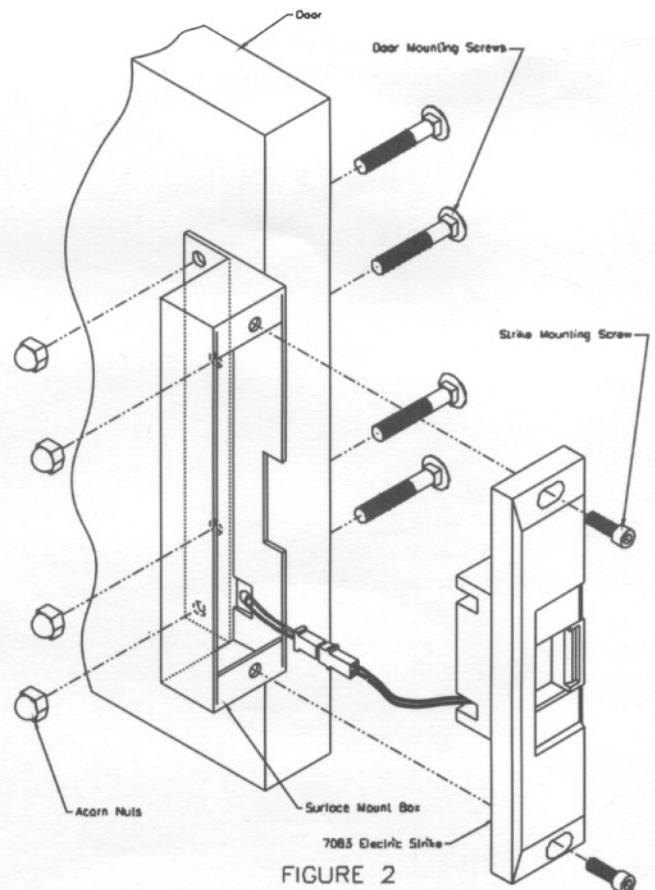

FIGURE 2
2. Install the Surface Mount Box to the door using the door mounting screws and acorn nuts as shown in figure 2.
3. Connect the power wires to the electric strike as shown in figure 2.
4. Mount the electric strike to the Surface Mount Box using the Strike Mounting Screws as shown in figure 2. Be sure to center the keeper in the cutout prior to tightening the Mounting Screws.